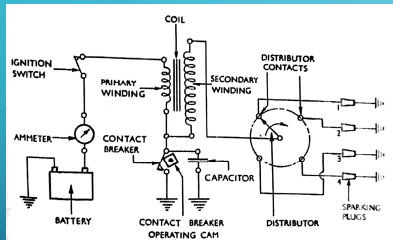

Fig. 2 Coil ignition system
Coil ignition system – Refer Fig. 2
- Fig. 2 is the circuit for a four cylinder engine.